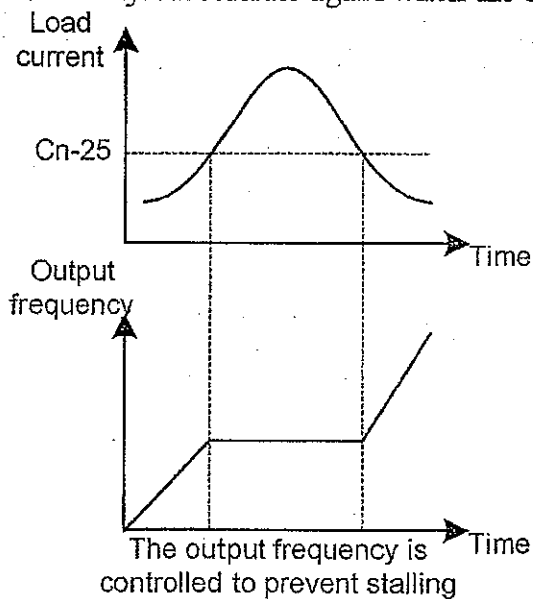

Fig. 23 Acceleration stall prevention function
- b. When the fault-reset input is received after the protection operation has been activated and the fault confirmed. (e.g., by pressing  or enable Fault reset terminal ③)
(19) Stall Prevention Level During Acceleration (Cn-25)
(20) Stall Prevention Level During Running (Cn-26)
- Stall Prevention During Acceleration: See Fig.23. Stop acceleration if Cn-25 setting is exceeded. Accelerate again when the current recovers.